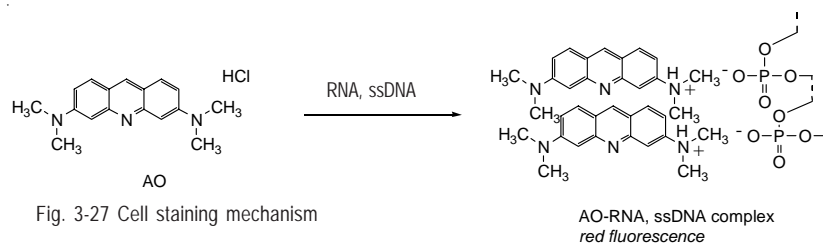

Fig. 3-27 Cell staining mechanism
Acridine orange (AO) forms a complex with double-stranded DNA to emit green fluorescence (Fig. 3-27). AO also forms a complex with single-stranded DNA or RNA to emit red fluorescence. One molecule of AO intercalates with three base pairs of double-stranded DNA and emits green fluorescence with the maximum wavelength at 526 nm (excitation 502 nm). One molecule of AO can also interact with one